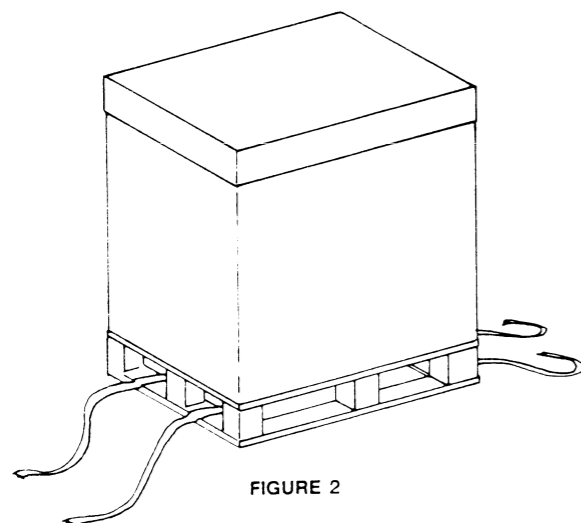

FIGURE 2
1. Remove the straps securing the shipping box to the pallet (See Figure 2).